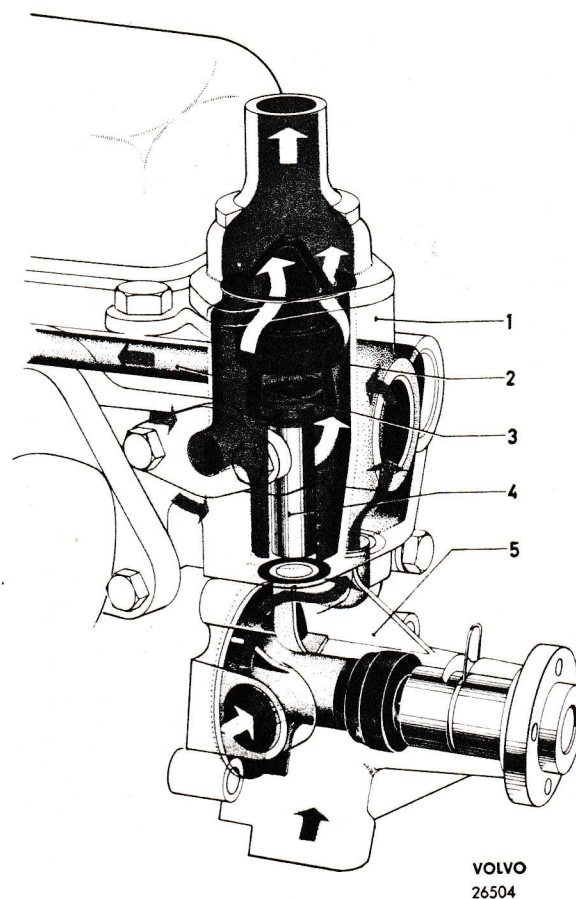

Fig. 20. Coolant flow, thermostat fully open
all the circulating water must pass through the radiator, (Fig. 20). Circulation is controlled while the engine is running by the thermostat so that the engine temperature is maintained within its correct limits. The distribution pipe in the cylinder head (3) ensures even cooling of the warmest parts of the cylinder head. The parts of the engine round the spark plug are also cooled and thereby maintained at a constant temperature. The cooling water round the walls of the cylinder circulates through a thermo-siphon action.